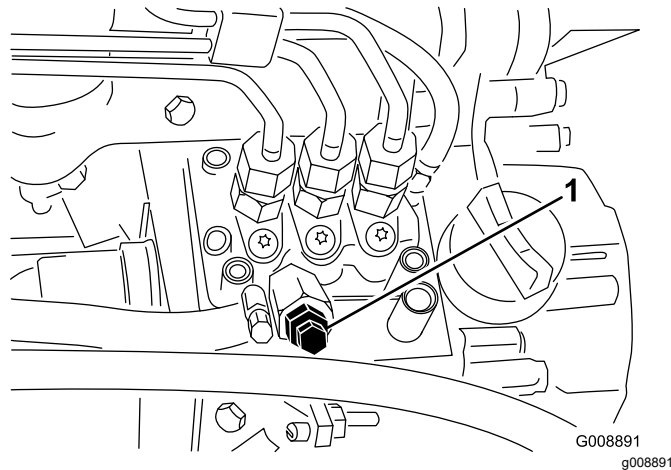

Figure 39
- Open the air-bleed screw on the fuel-injection pump (Figure 39).